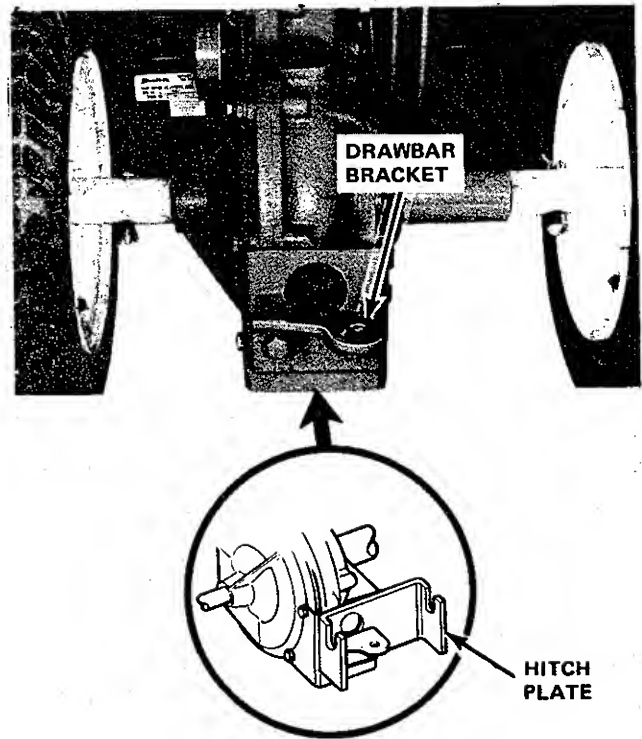

FIGURE 2
1. Remove the drawbar bracket bolts from the rear support plate on the transmission. Place the hitch plate between the drawbar bracket and the support with the notches up. Secure with the 3/8-16 x 1-1/2 in. capscrews, nuts and lockwashers provided. (See Figure 2)